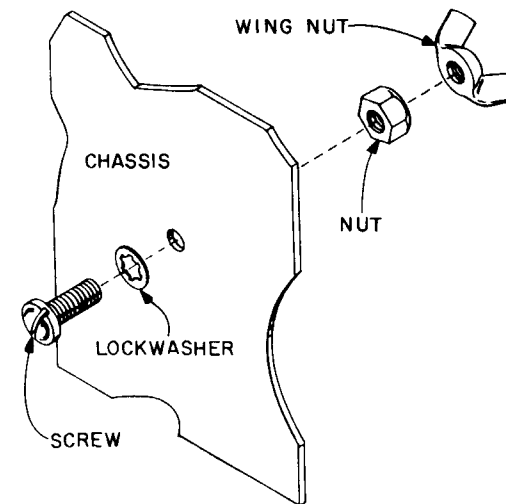

FIGURE 5. GROUND POST ASSEMBLY
- Ground post, a 10-32 screw, lockwasher, nut and wing nut. Assemble as shown in Figure 5.